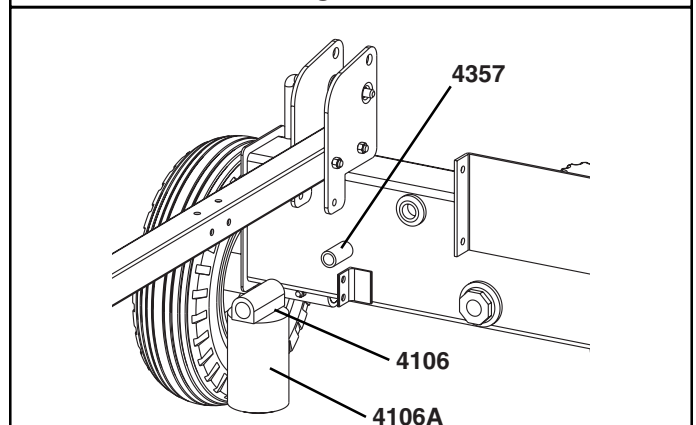

Figure 3
7. Next, remove the 3/4" x 2" pipe nipple (4357) from the parts bag and insert it into the upper hole in the reservoir. Now, remove the screw-on filter (4106) from the parts bag and remove the replaceable filter (4106A) from the cap. Thread the cap onto the nipple at outlet end and tighten until the bottom of the cap faces downward. Thread the filter onto the cap after applying a thin film of oil to the rubber seal to ensure that it does not tear. See Figure 3. For W2808 proceed to step 10.